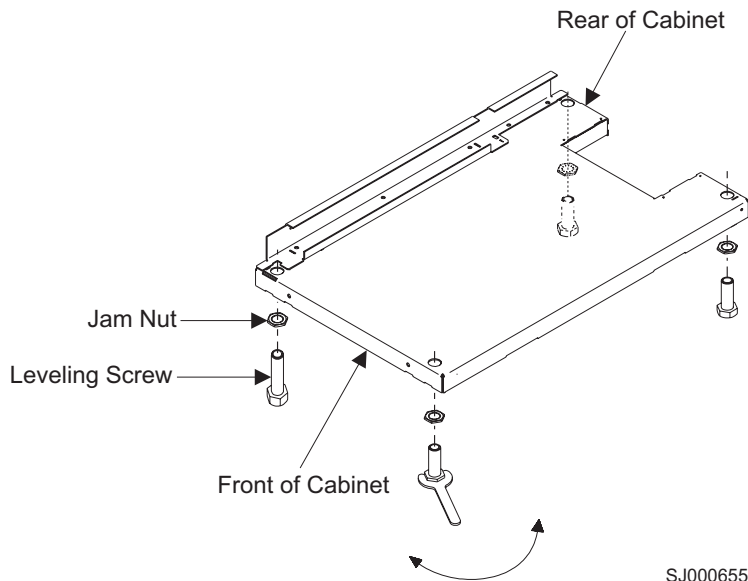

Figure 7. Leveling the cabinet
27. Adjust the leveling feet downward, as needed, until the cabinet is level. See Figure 7. When the cabinet is level, tighten the jam nuts against the base by turning the jam nut clockwise (toward the bottom of the cabinet). Torque the four bolts to 54–67 nm (40–50 ft-lbs).